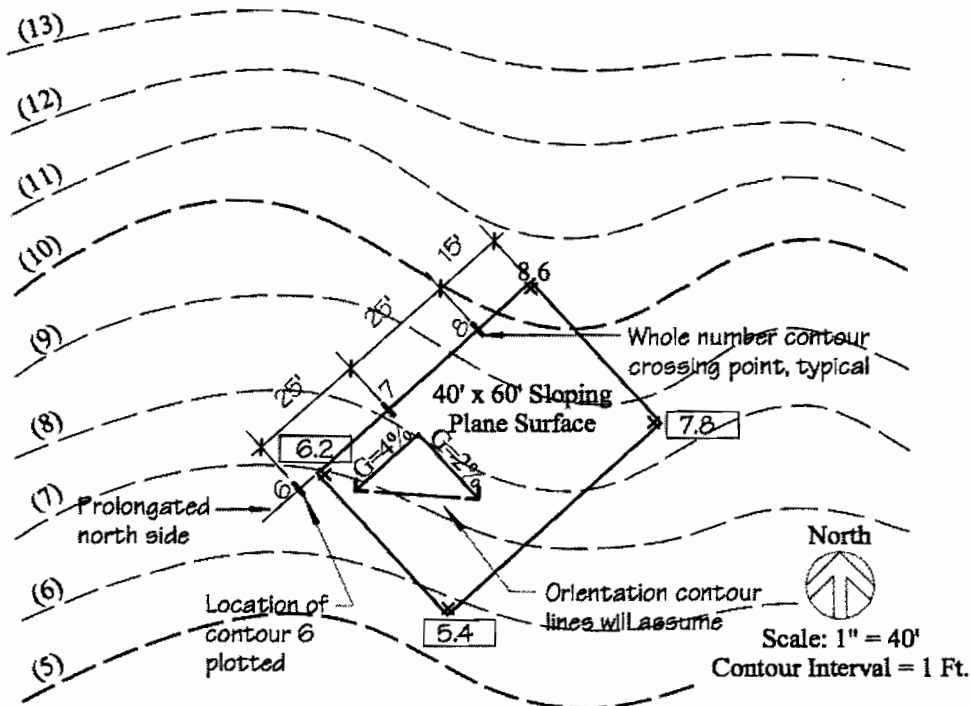

Figure 4-20. Calculating Whole Number Contour Line Crossing Points
Step 3. Plot points where whole number contour lines cross north side of plane surface as shown in Figure 4-20.
Now, look at the plane surface. Ask yourself if any other contours, in addition to contours 7 and 8, will need to be plotted on the plane surface? The answer is "yes," contour 6 will have to cross the plane surface. To anticipate the placement of contour 6, you'll need to visualize the plane surface *with all its contour lines* correctly plotted. Begin by noting the locations of contours 7 and 8. Look at the grade arrows to determine the orientation the plotted contours will assume. It will be apparent, by extrapolating from the positions of contours 7 and 8, that contour 6 will also cross the plane surface, although it will not cross its north edge. To plot the crossing point for contour 6, prolongate the north edge of the plane surface as shown in Figure 4-20. Doing so at this stage will save time later. Scale an additional 25 feet from contour 7 and place a tick mark on the prolonged line for contour 6.